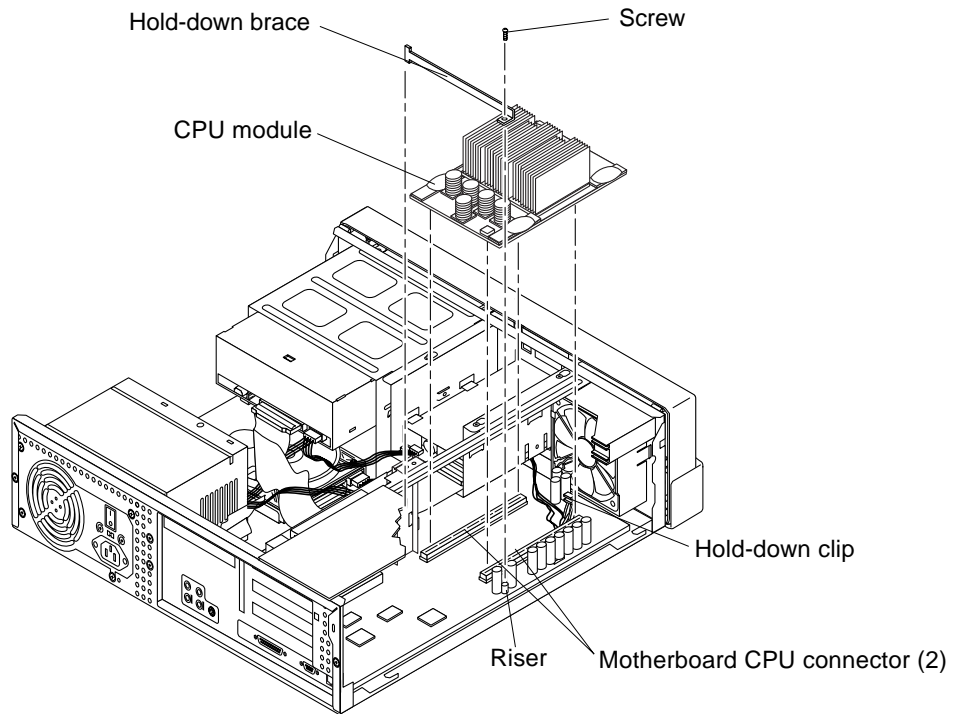

FIGURE 8-1 Removing and Replacing the CPU Module
3. **Remove the CPU module as follows (FIGURE 8-1):**
1. Replace the CPU module as follows (FIGURE 8-1):